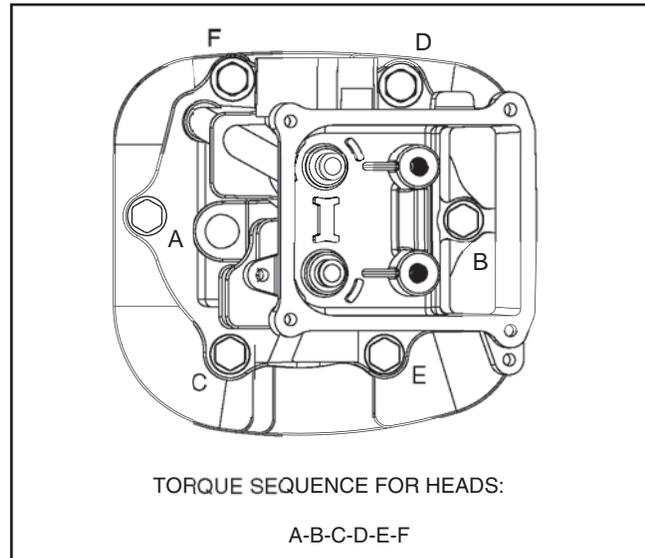

Figure 13-14. Install Cylinder Head
- a. Torque head bolts in sequence shown (Figure 13-14) to 29.9 Nm (22 ft. lbs.).